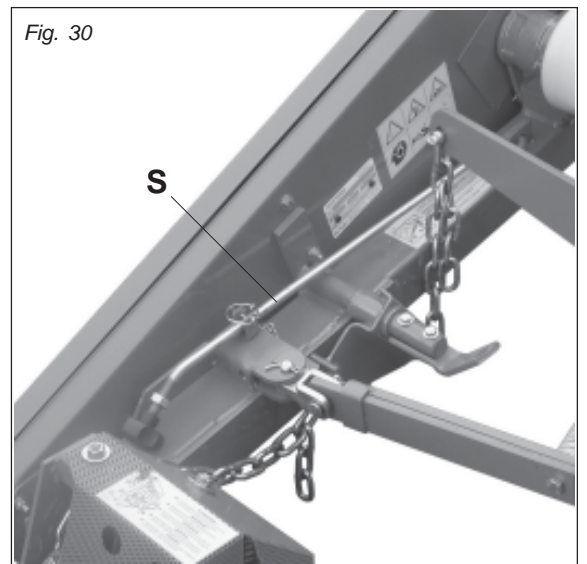

Fig. 30
- Remove tie rod (S, Fig. 30) from the cutting arm and secure it in its seat.